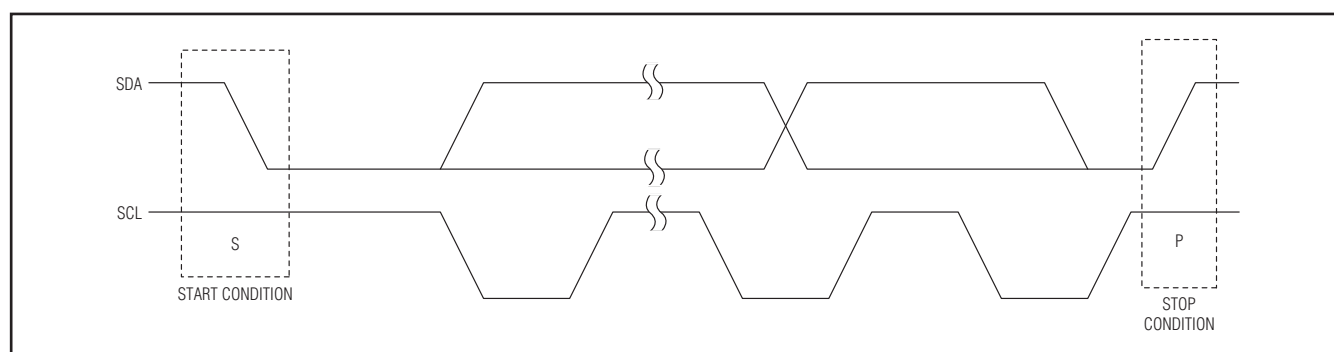

Figure 3. START and STOP Conditions
Each transmission consists of a START (S) condition sent by a master, followed by a 7-bit slave address plus a NOP/ \overline{W} bit. See Figures 3, 4, and 7.